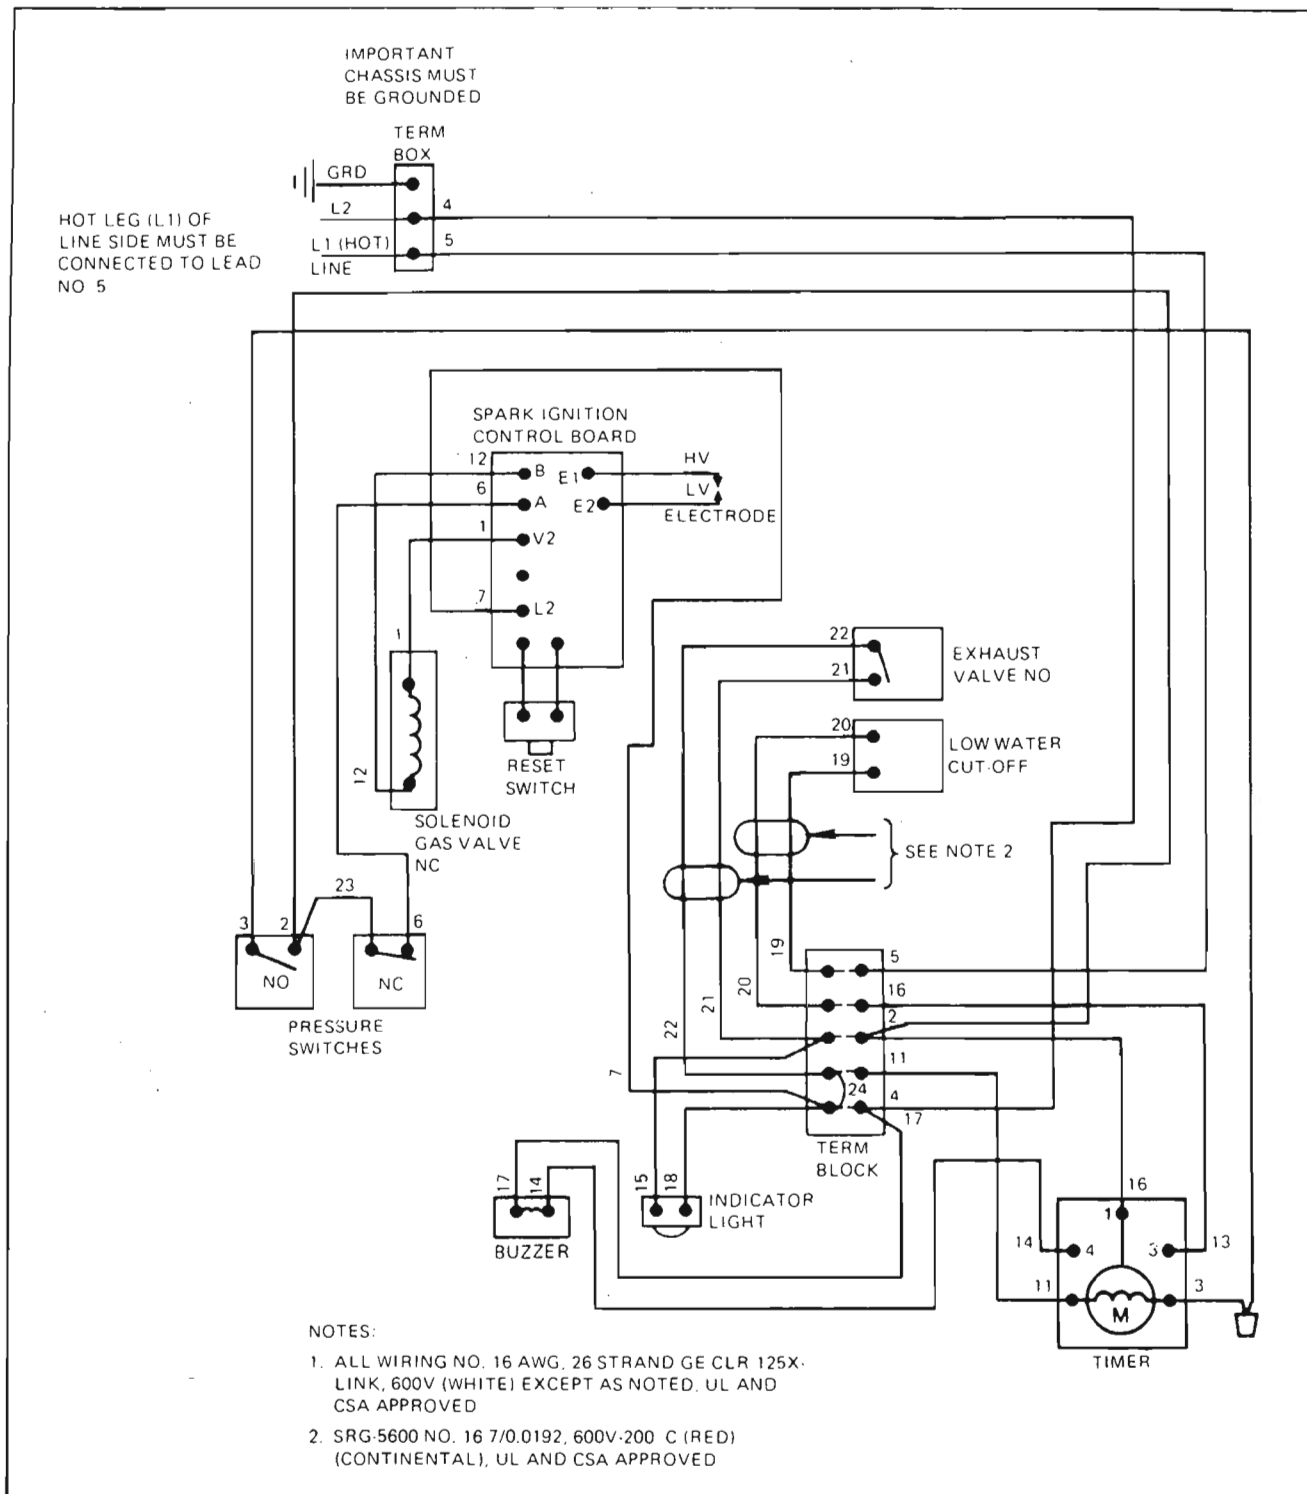
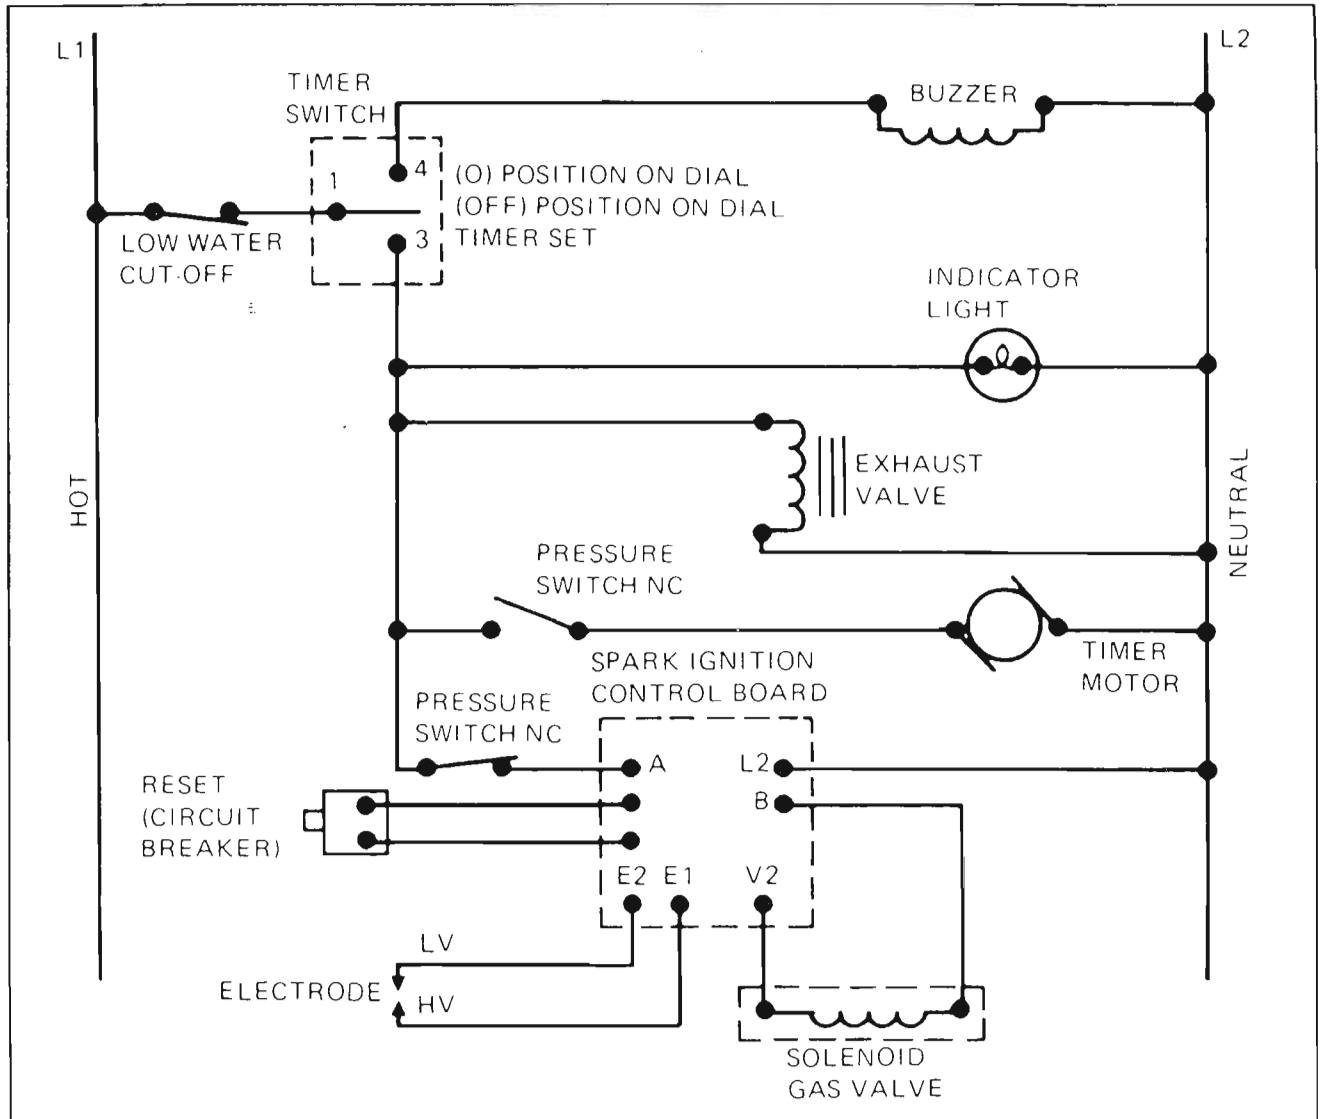

Figure 5-1. Wiring Diagram, Steam-It, 120V, 60 Hz
Figure 5-2. Schematic Diagram Steam-It, 120V
Electrical trouble-shooting procedures which follow require access to components and terminals of the operating controls and ignition control board. Electrical controls are reached by removing the lower front panel as described in paragraph 6.3.2. Wiring and terminal locations are shown in Figure 5-1. Figure 5-2 shows the circuit schematically.
2. Disconnect all wires (13,14 and 16) from timer terminals. (See Figure 5-1.)
7. Remove ohmmeter and replace all leads on timer terminals as shown in Figure 5-1.
All of the electrical components of the Steam-It (60-minute timer, pressure switches, gas solenoid valve, RESET switch, exhaust valve, low water cutoff switch and ignition control board, buzzer and indicator light) are connected to each other by wiring shown in Figure 5-1. If all of the electrical components are operating correctly (and the incoming power has been checked), but the cooker fails to operate the fault lies in the wiring.
Figure 5-1 is a wiring diagram which shows all terminals and interconnections within the electrical circuits. All numbered terminals are identified and all leads number
coded as shown. Connections can be easily removed. Figure 5-2 shows the same information schematically and is an aid in isolating circuits for testing.
Using an ohmmeter, wiring continuity between the connections shown on the wiring diagram (Figure 5-1) are readily verified. This is best done in stages, removing only those wires required for each continuity check. As each lead is replaced it should be checked for evidence of corrosion and cleaned if necessary. All leads must be tightly attached so as to provide a good electrical connection.